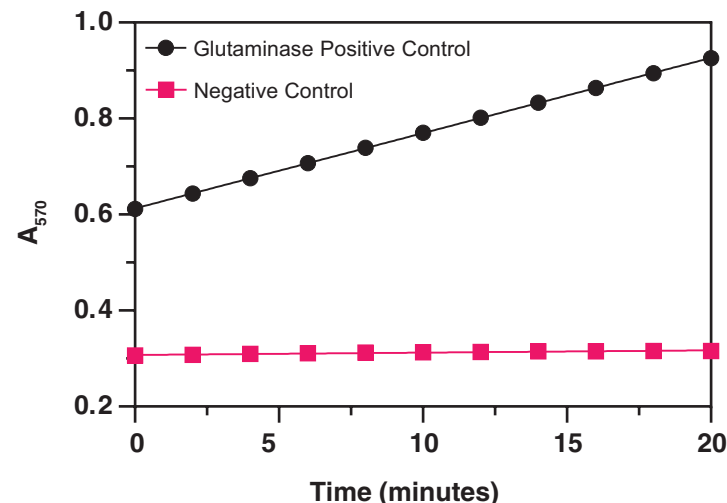

Figure 4. Activity of the Glutaminase Positive Control
- A. Plot the absorbance values as a function of time. An example is shown in Figure 4 on page 17.